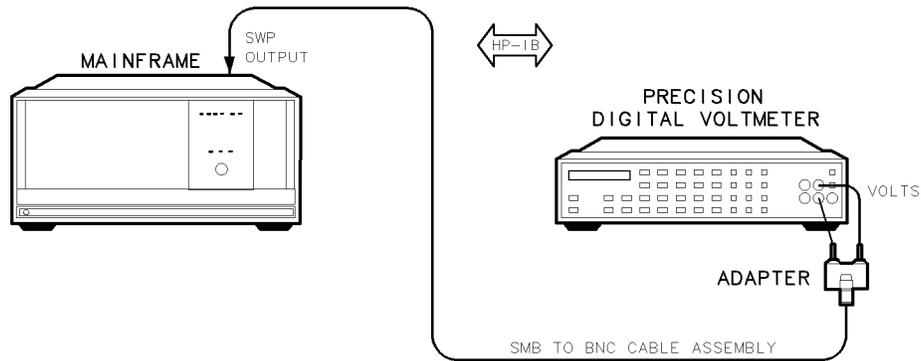

Figure 7-19. SWP Output Accuracy Test Setup
1. Connect the HP 3456A digital multimeter to the DUT's SWP OUTPUT using the adapter and the HP 85680-60093 123 cm (48.4 in) 50Ω BNC(m) to SMB(f), as shown in Figure 7-19.